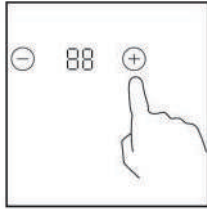

Fig.3
3. a. For model CH603BF, select a heat setting by touching the “-” or “+” control. Then touch “-” or “+” to adjust the heating stage. (Fig.3)